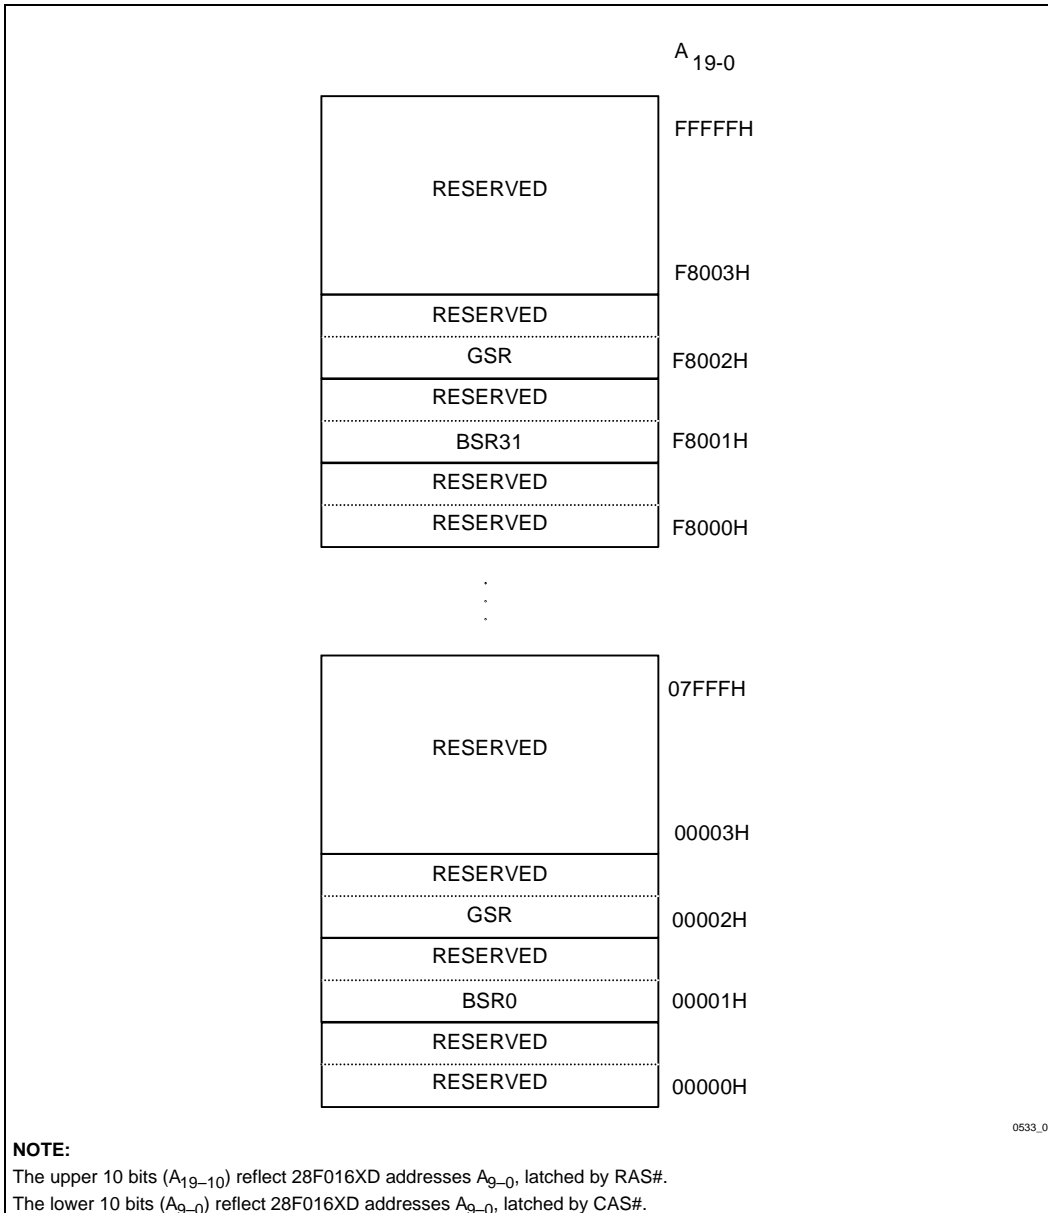

Figure 4. Extended Status Registers Memory Map
The GSR and BSR memory maps are shown in Figure 4.
1. RA can be the GSR address or any BSR address. See Figure 4 for the Extended Status Register memory map.